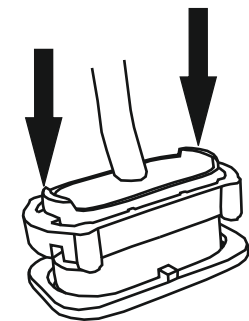

Fig. 4
- 7) Press the top ring once again on both sides simultaneously as shown in Fig. 4 such that it will be locked in the bottom notches of the sensor module and the sensor module will be firmly locked in its place.